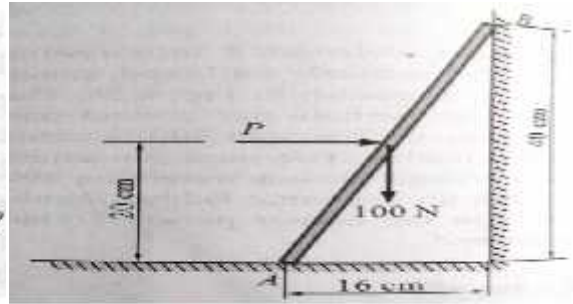

fig:8
8. A 100 N uniform rod AB is held in position as shown in fig:8, if coefficient of friction is 0.15 at A and B. Calculate range of values of force P for which equilibrium is maintained.